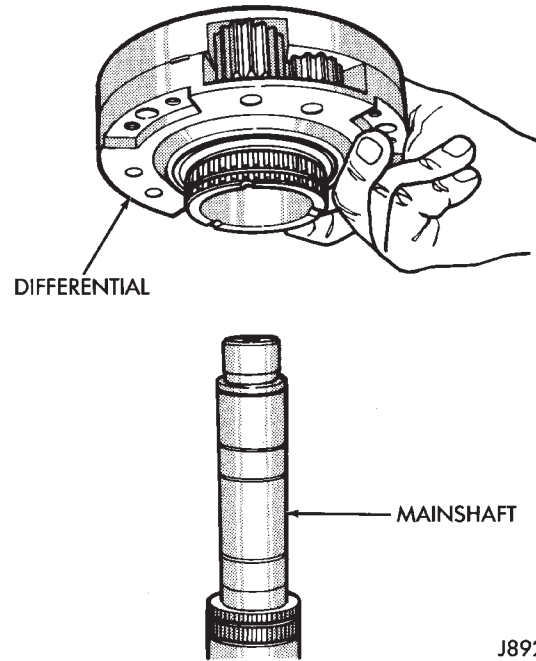

Fig. 28 Differential Removal
(35) Remove differential (Fig. 28).
(36) Remove differential needle bearings and both needle bearing thrust washers from mainshaft.